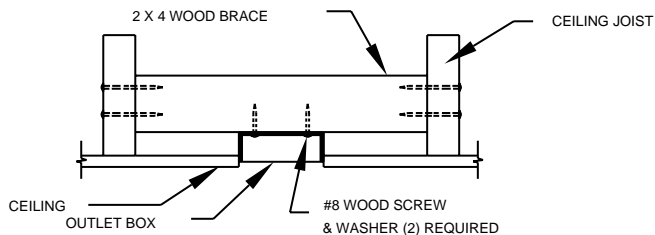

FIGURE 2.
- A. SECURE A METALLIC OUTLET BOX 4" X 1-1/2" OR 4" X 1/2" DEEP TO A 2 X 4 CROSS BRACE BETWEEN TWO CEILING JOISTS AS SHOWN IN FIGURE 2. THE OUTLET BOX MUST BE RECESSED IN THE CEILING BY 1/16" MINIMUM. SECURE THE OUTLET BOX TO THE CROSS BRACE BY DRILLING (2) PILOT HOLES NO LARGER THAN THE MINOR DIAMETER OF THE WOODSCREWS (5/64") AND USE TWO #8 X 1-1/2" WOODSCREWS AND WASHERS. USE THE INNERMOST HOLES FOR SECURING THE BOX. ORIENT THE BOX SO THE OUTERMOST HOLES ARE ALIGNED WITH THE 2 X 4 BRACE. THE OUTERMOST HOLES WILL BE USED IN STEP 4B.